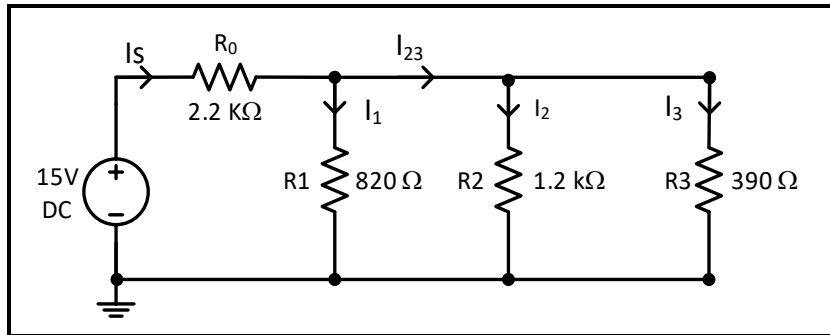

Figure 3.8
1. Simulate the circuit of Figure 3.8 using PSPICE to find the value of current in each resistor in the circuit.
1. Connect the circuit shown in Figure 3.8, set V_{in} to 15 V.